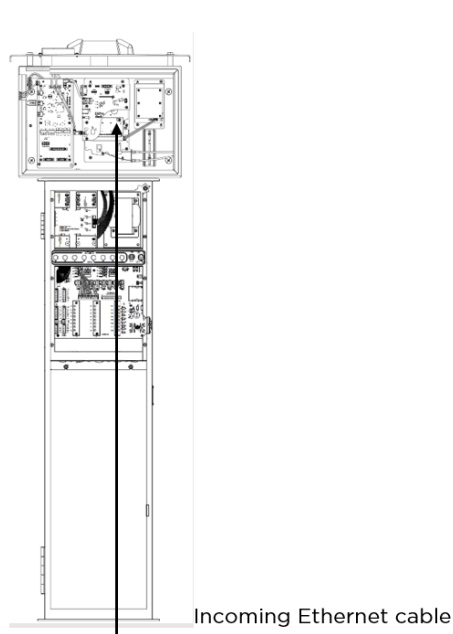

Figure 32 Conduit Run into FMU
- 1 Run the ethernet cable through conduit feeding into the pedestal of the FMU, through the interface plate, and into the upper cabinet (Figure 32 page 43).